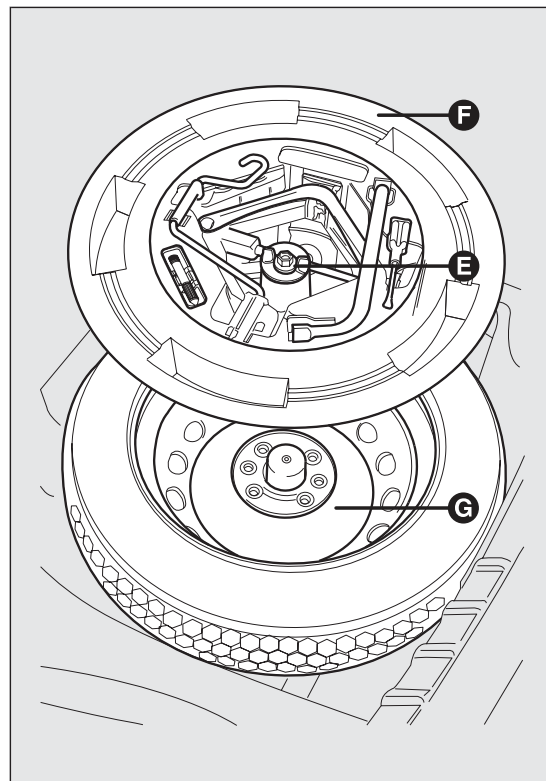

fig. 149
- ☐ arrange the space-saver wheel G fig. 149 in the specific compartment in the luggage compartment;